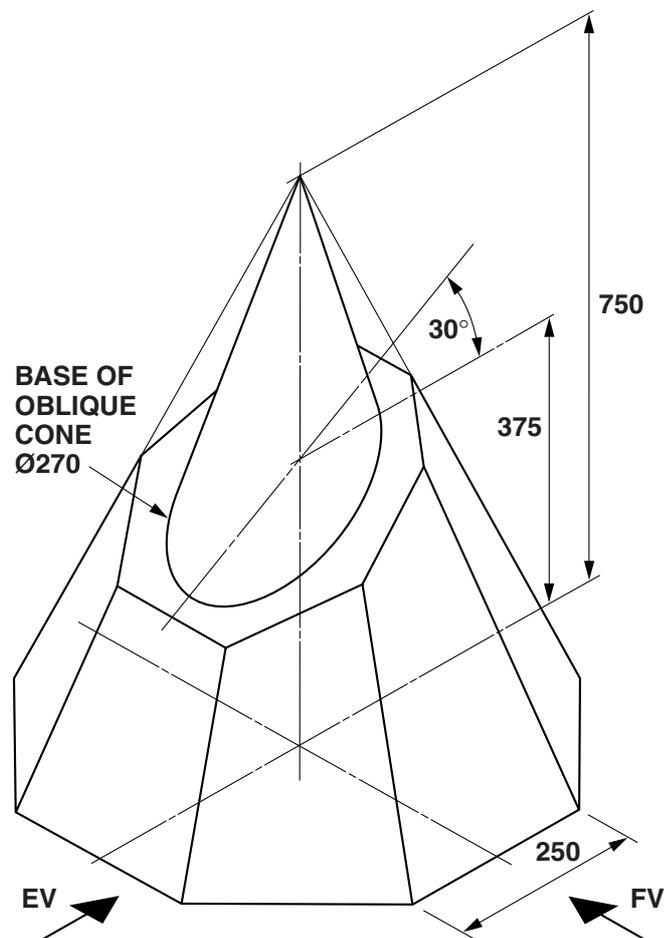

Fig. 4
- 4 A memorial stone is shown in Fig. 4. The stone is in the shape of a truncated right octagonal pyramid with an oblique cone centrally positioned on the pyramid as shown.